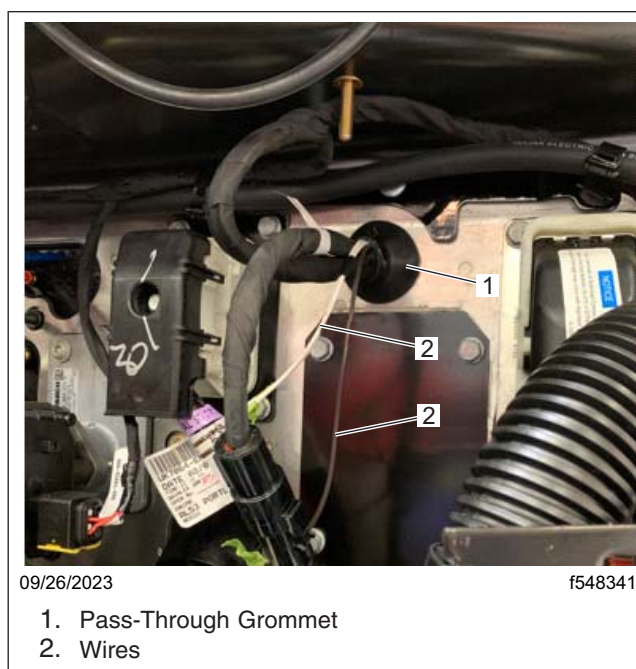

Fig. 73, Pass-Through Grommet with the Three Wires Pulled Through
- 17.3 Pass the three wires through the driver-side pass-through grommet from inside the cab to the engine compartment. **Figure 73** shows the pass-through grommet from the engine compartment side with the wires pulled through.